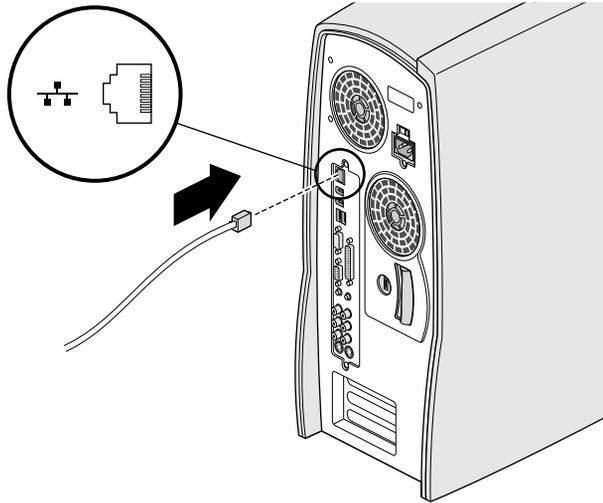

Figure 1-4 Attaching the Ethernet Cable
3. If you are installing your system on a network, attach the Ethernet cable from the wall jack to the RJ45 connector on the back of the system, as shown in Figure 1-4.